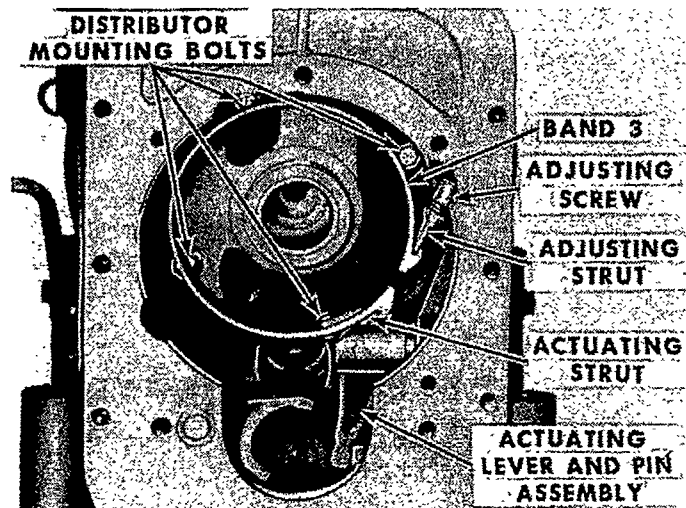
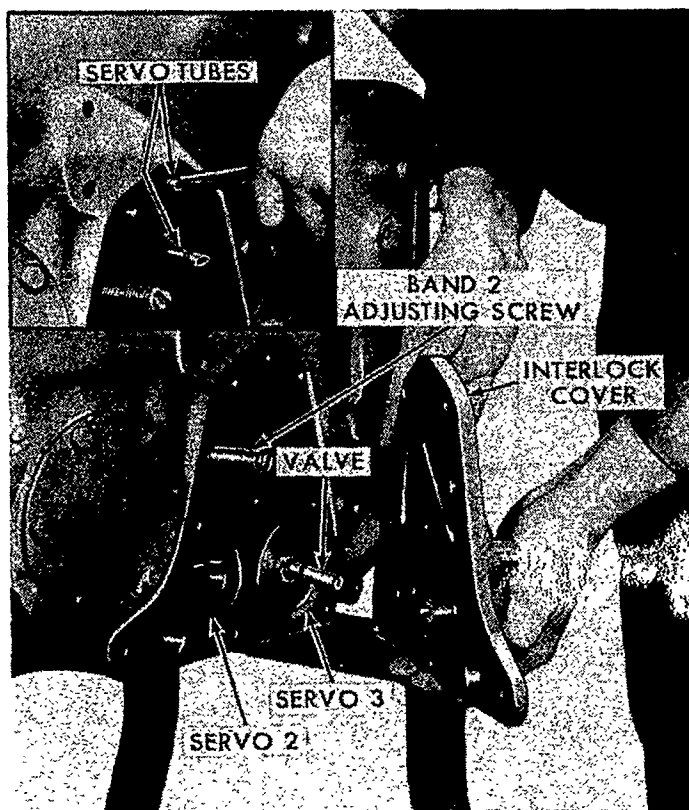

Figure 47
Figure 49
3. Loosen band 2 and 3 adjusting screws to relieve the tension from the servos, and remove servo 2 and 3 cover assembly. See Figure 49.
6. Mark the end of servo 2 and the transmission case and rotate the servo 180° to free the servo piston rod from the lever and pin assembly. See Figure 49.
2. Pull servo 3 far enough out of the case to replace the "O" ring. See Figure 49.
10. Remove No. 2 band adjusting screw lock nut and washer and loosen the adjusting screw. Remove the eight servo 2 and 3 cover attaching bolts and remove the cover and gasket, shown in Figure 49.
11. Loosen the four distributor mounting bolts, shown in Figure 47, and remove the two servo tubes from the distributor (but not from the transmission case), by twisting and pulling at the same time, as shown in the Insert, Figure 49.
20. Install and properly position the band 2 and 3 servo tubes into the distributor. See Insert, Figure 49. If the tubes are not aligned with the distributor, rotate the distributor as required and insert the tubes.
24. Install band 3 adjusting screw and secure band 3 in position with the depression in the band end toward the adjusting screw. Join the band to the screw with the adjusting strut and to the servo lever with the actuating strut. See Figure 47.
25. Install the servo 2 and 3 cover and gasket, making sure the check ball pin for servo 2 is in place in the cover. See Figure 49. Install the strainer and plug assembly. Install and tighten the interlock cover attaching bolts evenly to 35–40 ft. lbs. torque. Install band 3 sealing washer and lock nut.